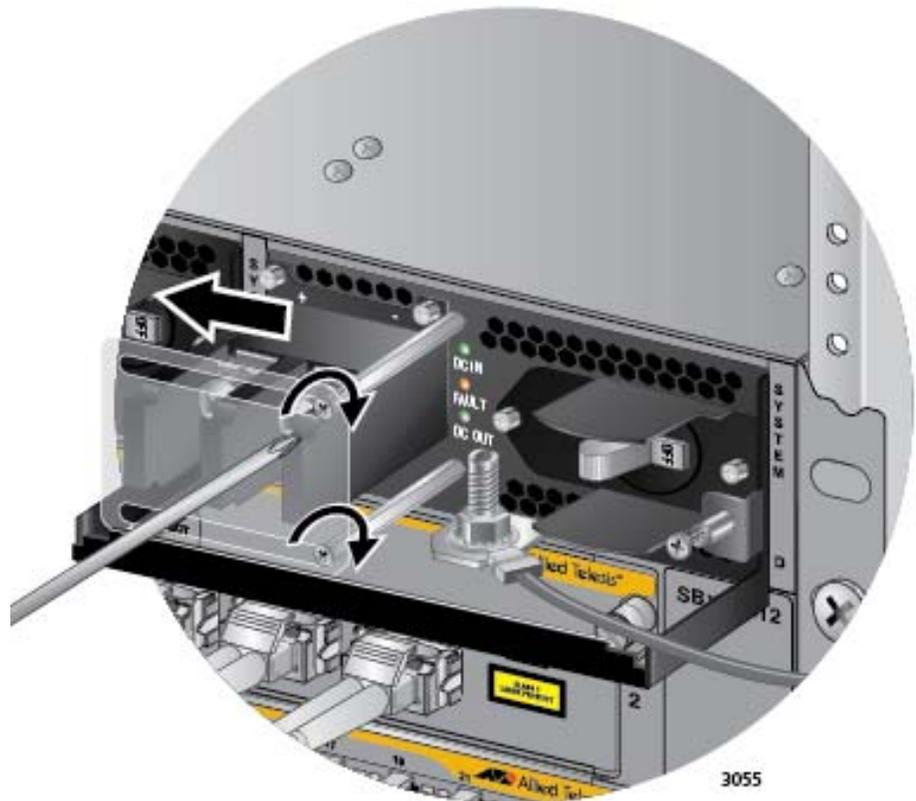

Figure 155. Closing the Plastic Cover
8. Slide the plastic cover to the left and lightly tighten the two screws to secure it in place. Refer to Figure 155 on page 247.